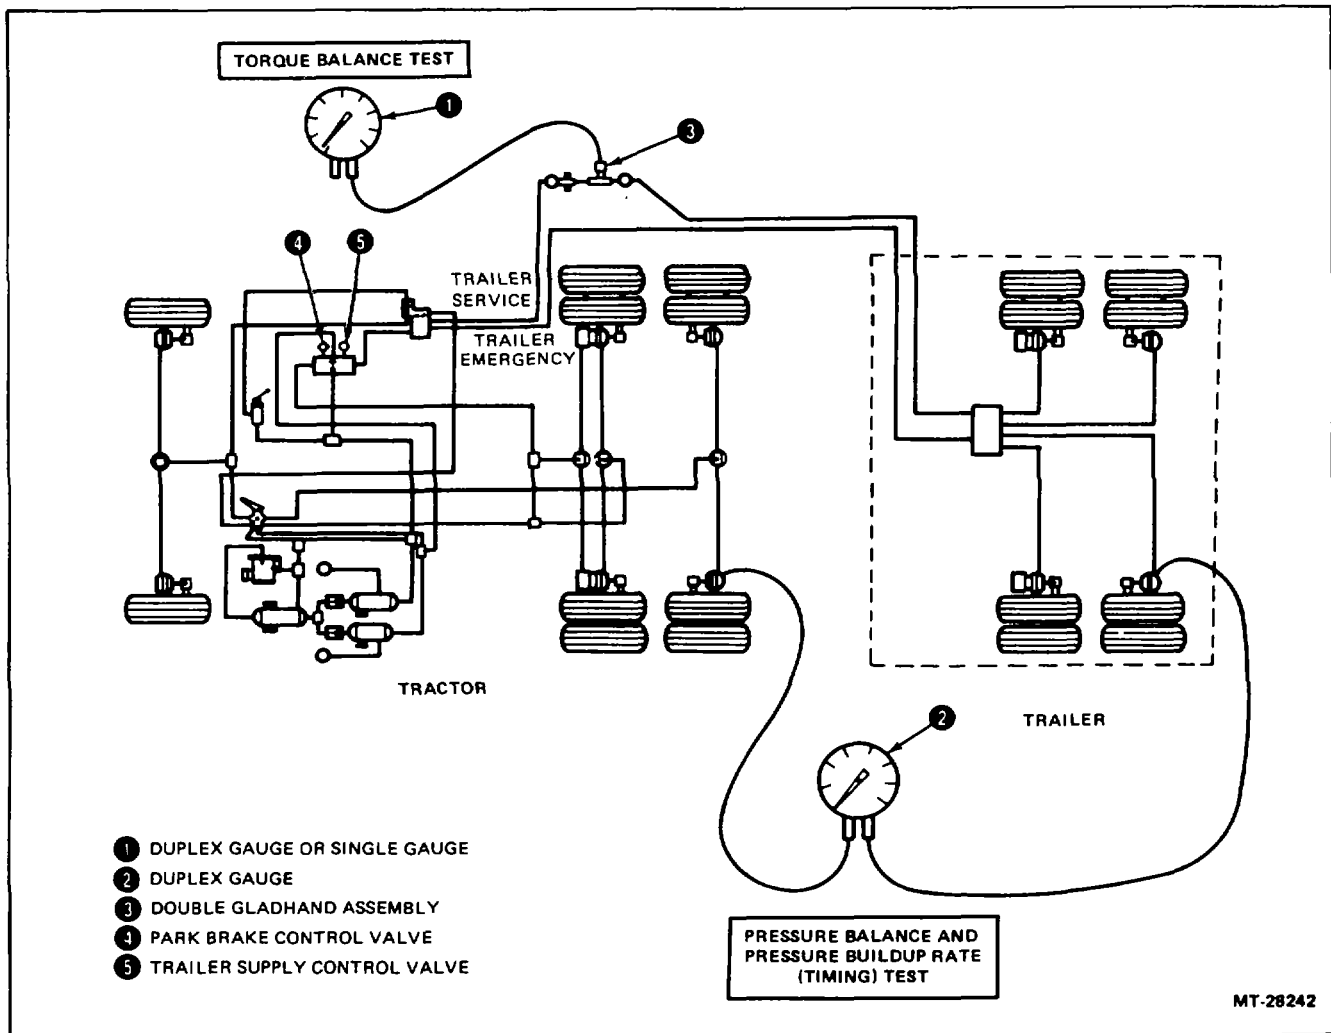

Figure 26 - Test Connection 8 - Single Trailer
2. Connect the hoses from the duplex gauge to the combination vehicle (Figure 26) as follows: